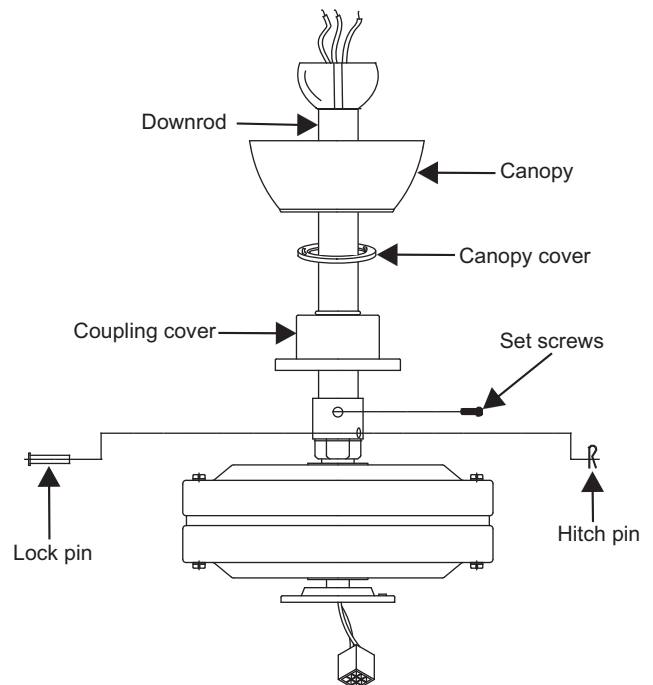

Figure 7
Step 6. Route wires exiting from the top of the fan motor through the collar cover, canopy cover, canopy and then through the ball / downrod. (Fig. 7)
Step 7. Align the holes at the bottom of the downrod with the holes in the collar on top of the motor housing. (Fig.7) Carefully insert the hanger pin through the holes in the collar and downrod. Be careful not to jam the pin against the wiring inside the downrod. Insert the locking pin through the hole near the end of the hanger pin until it snaps into its locked position, as noted in the circle inset of Fig. 7.
Step 8. Tighten two set screws on top of the fan motor firmly. (Fig. 7)